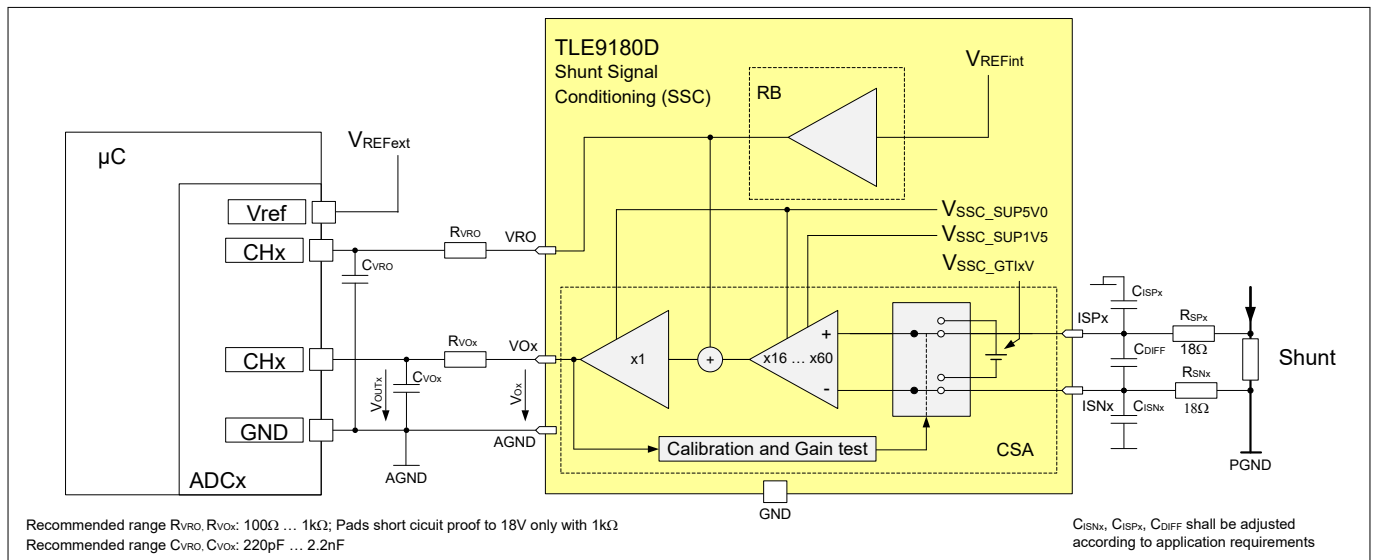

Figure 13 Simplified Block- and Application Diagram of the Shunt Signal Conditioning
The shunt signal conditioning (SSC) incorporates 2 precise current sense amplifiers (CSAs) to amplify the voltage drop at the shunt resistors caused by the motor currents and a voltage reference output buffer (RB), see Figure 13.